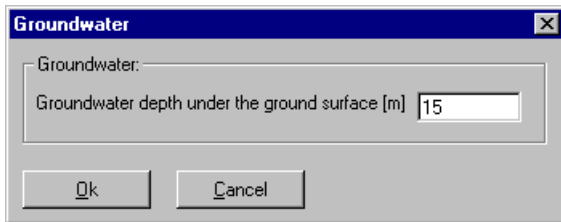

Figure 3-16 "Groundwater depth under the ground surface" edit box
- Double-click on the groundwater level. The corresponding edit box to modify the groundwater depth under the ground surface appears, Figure 3-16. To neglect the uplift pressure on the raft, groundwater level is chosen at anywhere under the raft basement